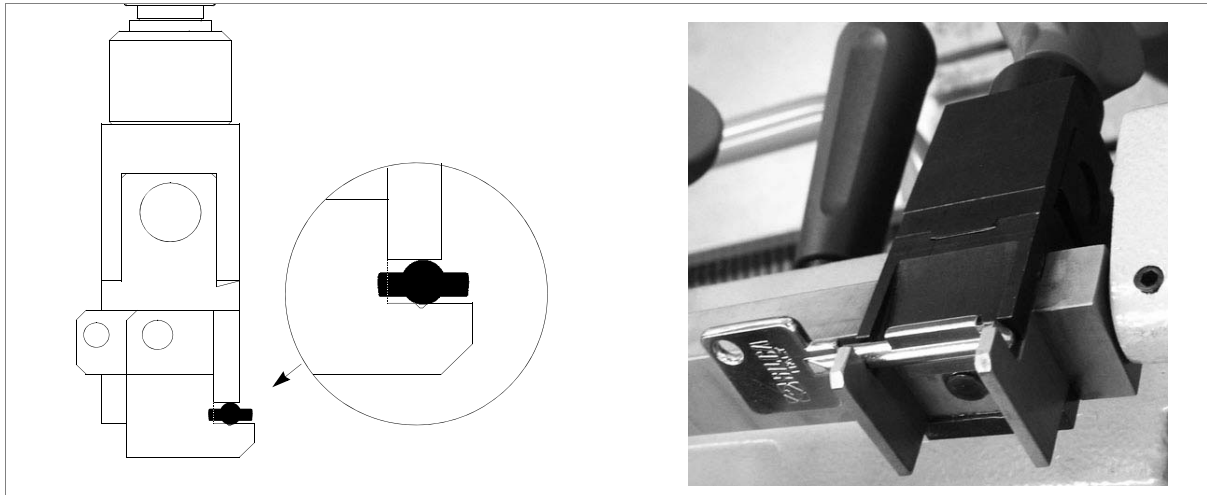

Fig. 60
- the key stem must be centered in the small "V" seat of the lower plan (fig. 60).